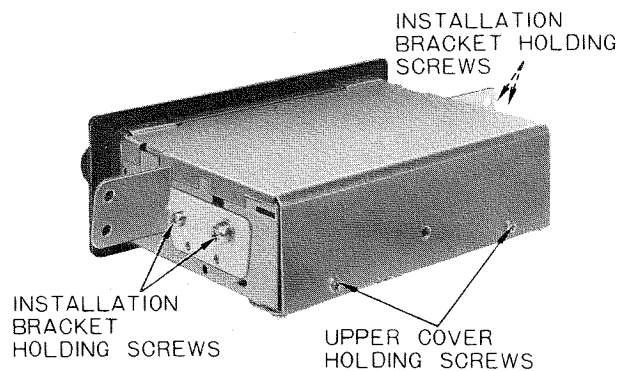

Fig. 6
1. After pulling out the knobs, escutcheon and installation brackets, remove two screws on the upper cover as shown in Fig. 6.